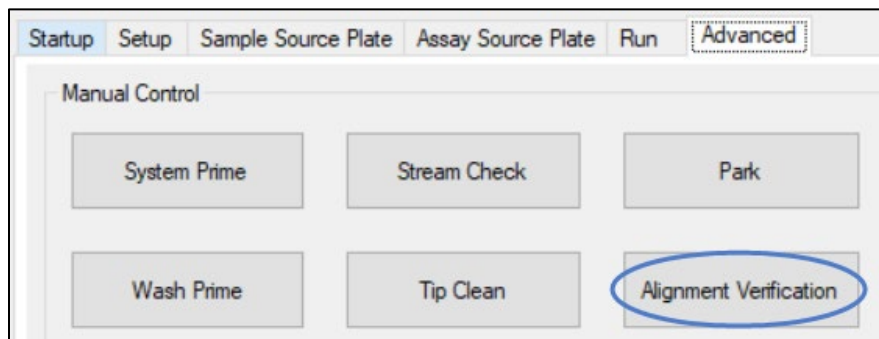

Figure 53. *Advanced* tab and [Alignment Verification] button.
4. Perform the alignment verification using the SmartChip Dispenser Software. Click the *Advanced* tab and then click the [Alignment Verification] button (Figure 53) to start dispensing.
NOTE: The other buttons on the *Advanced* tab located under the buttons shown in Figure 53 are reserved for use by a certified Field Service Engineer. Customers are discouraged from using these.